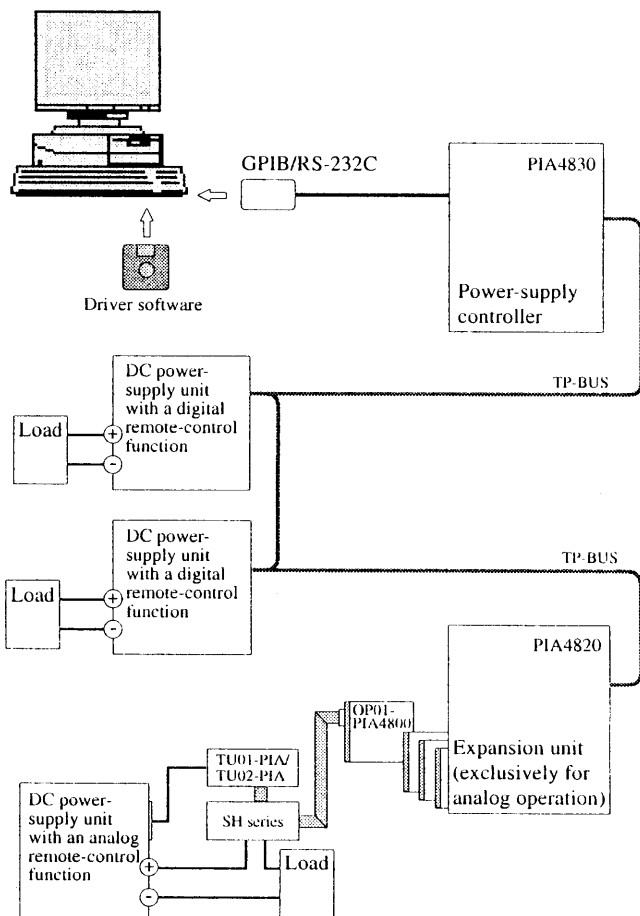

Fig. 1 System Configuration
All control operations are performed from a personal computer (PC) via GPIO or RS-232C. Fig. 1 shows the system configuration. First, a PC is connected to the PIA4830 with a GPIO or RS-232C. To control a DC power-supply unit with a digital remote-control function, the PIA4830 is directly connected to the power-supply unit using a TP-BUS connector. When a DC power-supply unit with an analog remote-control function is controlled, the expansion unit PIA4820 is connected to the power-supply unit with a TP-BUS connector. The PIA4820 must be equipped with the control board OP01-PIA or OP02-PIA. For details on the PIA4820, OP01-PIA, and OP02-PIA, refer to the PIA4820 Operation Manual.